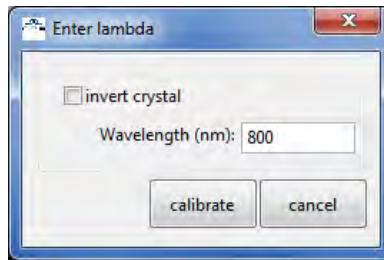

Figure 4.27.: FROG crystal calibration dialog.
- In the FROG software select “Calibrate Crystal” and enter the wavelength from step 1. Now click the “calibrate” button. See also Figure 4.27.